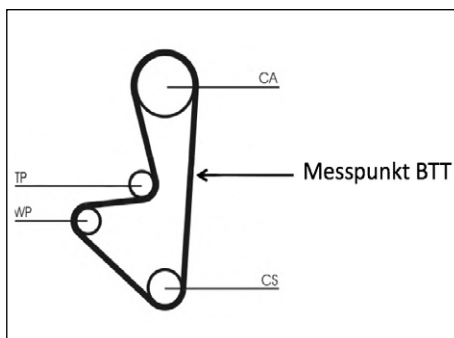

Fig. 8
5. Use BTT Hz tension tester as an aid when tensioning timing belt. Determine appropriate setting and correct set position using BTT Hz data booklet (Fig. 8). Loosen tensioning pulley nut, insert square key wrench into tensioning pulley, and position measurement head of BTT Hz at correct position approx. 1-2 cm above timing belt.